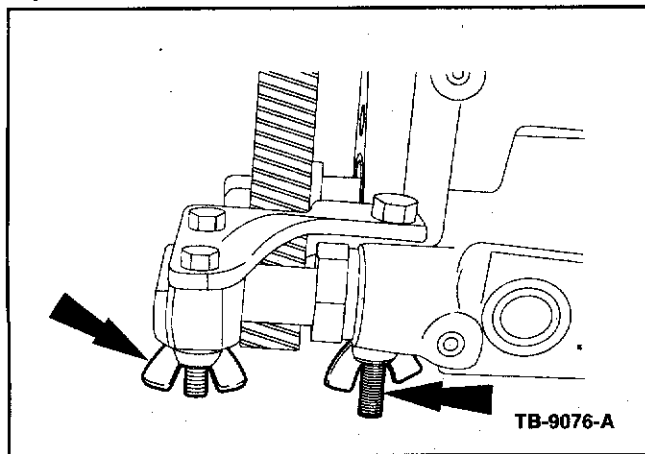

Figure 10 - Article 08-9-9
8. With plastic holding tool securely fastened, torque jam nut to 49 lb-ft (66 N•m) with a 15/16" crow foot open end wrench and torque wrench. (Figure 10)